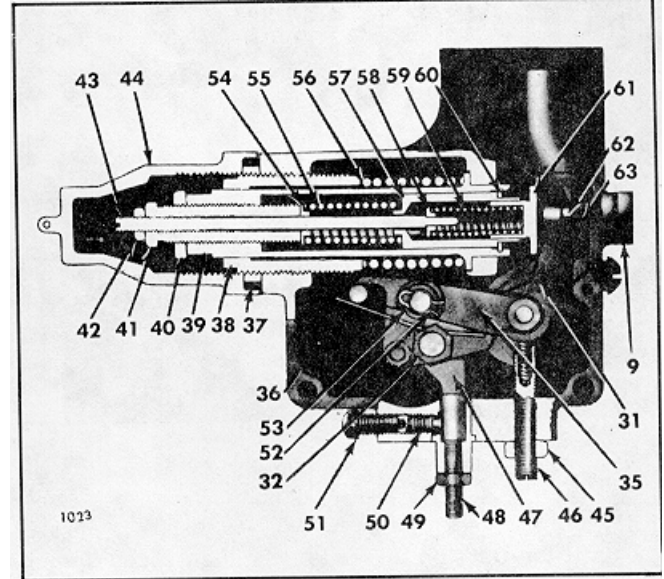

Fig. 1 - Fuel Modulating Governor Spring
- A Remove the governor adjustment cover (44), Fig 1, control housing cover, housing plug (9) and copper gasket. Disconnect the governor external control linkage and remove the valve rocker cover.
- B Loosen the idle speed screw lock nut (42) and back out idle screw (43) until the low speed spring (59) exerts no pressure on the low speed spring cap (61). This may be determined by moving the low speed cap in and out. Use care